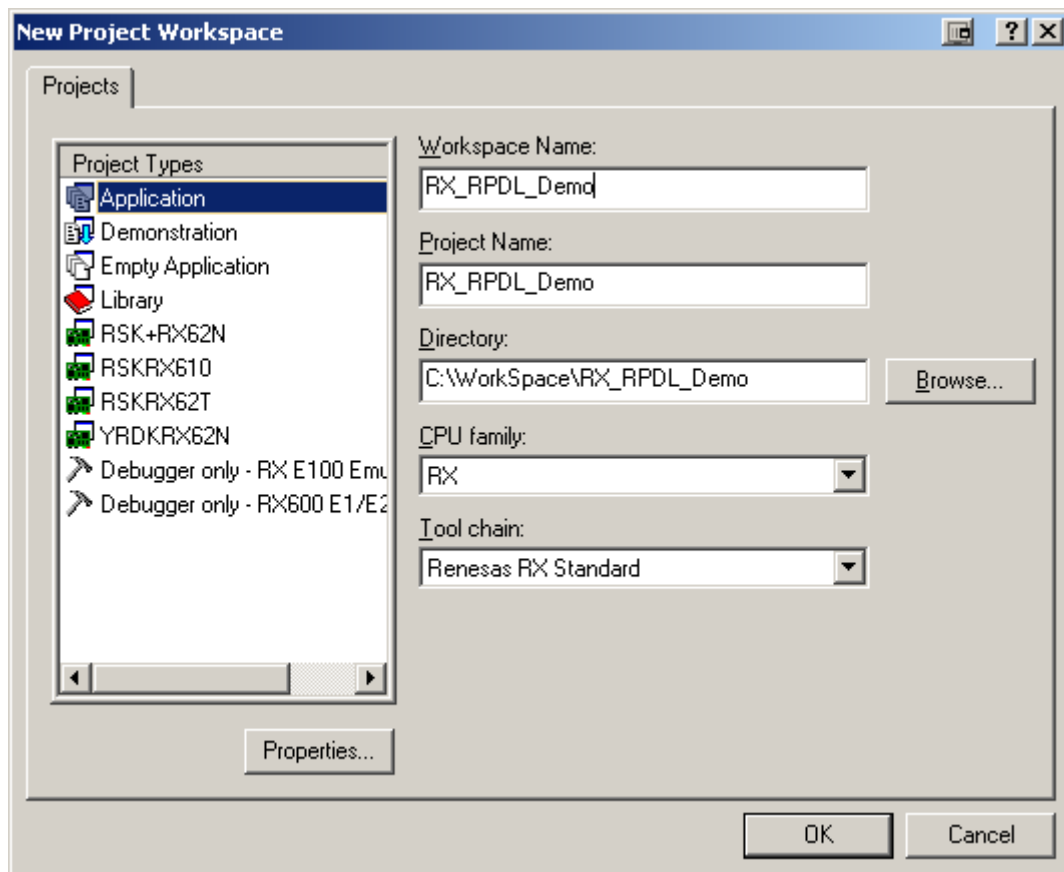

Figure 2-1 : Creating a new workspace
- Step 2.6** Type “RX_RPD_Demo” into the “Workspace Name” field. Your window should look like Figure 2-1. Click “OK”.